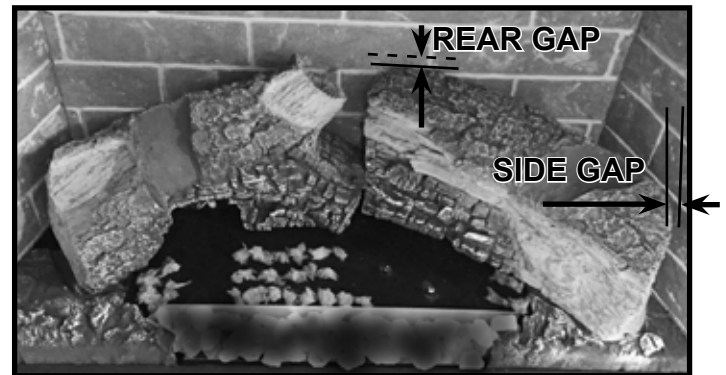

Figure 5 Rear Right Log Installed
2. Remove the large rear right log from packaging. Locate the locating feature on the bottom of the log and mate that feature with the back right log pin. The right side of the log will reside within the indentation in the right hearth component. See Figure 5.
**SL-7X and SL-9X Models:** The rear right log will be positioned to contact the back wall refractory (no rear gap). Slide the rear right log leftward as close to the rear left log as the locating pin will allow. There will be about a 1 inch side gap between the right end of the log and the right refractory panel. See Figure 5.
**SL-3X Models:** Mate the left log hole with the left log pin. The rear right log will contact the right refractory panel (no side gap). See Figure 5. Slide the rear left log rightward as close to the rear right log as the locating pin will allow. There should be no more than a 1/4 inch gap between the rear logs.
**SL-5X Models:** Set the right end of the log in the indentation of the right hearth component. The back side of the log will contact the rear right log pin. See Figure 5.